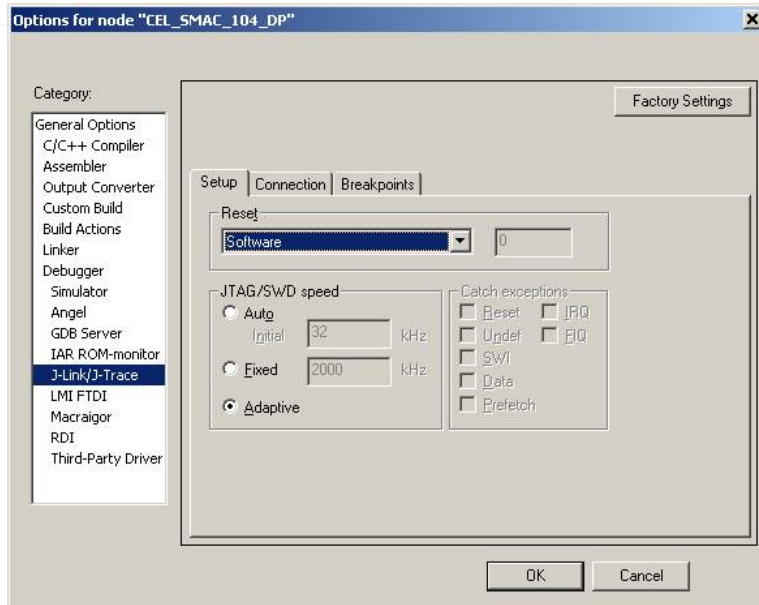

Figure 9 – Screen, IAR Workbench – Setting JTAG/SWD Speed
- In the 'J-Link/J-Trace' category, set the 'Reset' to 'Software' and the 'JTAG/SWD speed' to 'Adaptive' as shown in Figure 9.